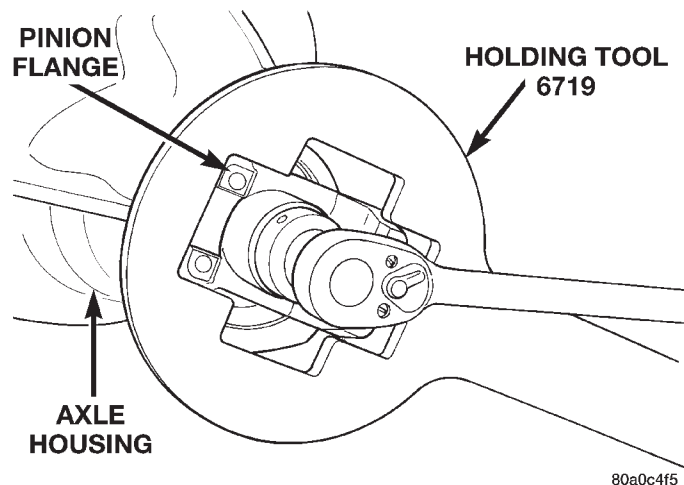

Fig. 10 Tightening Pinion Shaft Nut
(6) Use Flange Wrench 6719 to retain the yoke and shaft (Fig. 10). Tighten the shaft nut in very small increments.